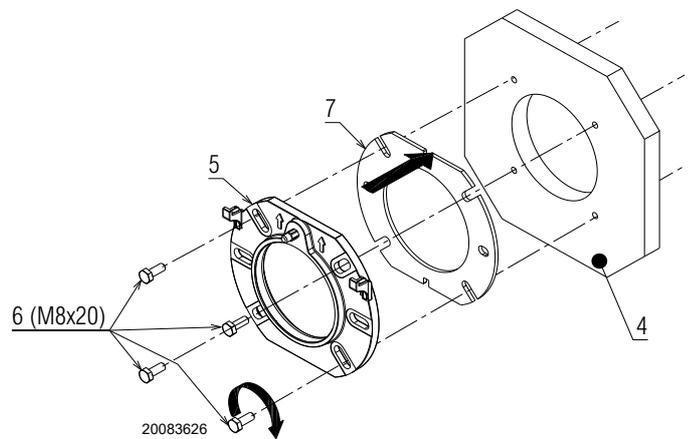

Fig. 8
- Fix the flange 5) to the boiler door 4) using the screws 6) placing in between the insulating gasket 7)(Fig. 8);